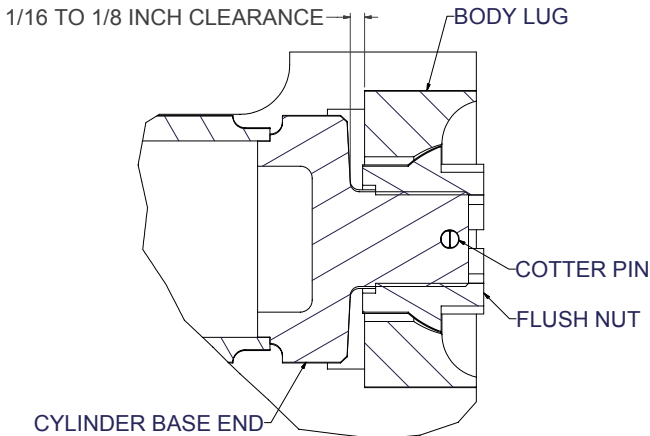

Figure 4-4, Body Lug
1. Apply a thin coat of bearing grease to the spherical portion of the flush nut and concave section of the body lug. Screw on the flush nuts until they stop. Back the flush nut off lining up the cotter pin hole in the rod or base end stud with the slot in the flush nut. Do not tighten the flush nut tight to eliminate all clearance between washer and body lug. Adjust to allow 1/16 to 1/8 of an inch clearance between the base end of the cylinder and the body lug. (Figure 4-4)